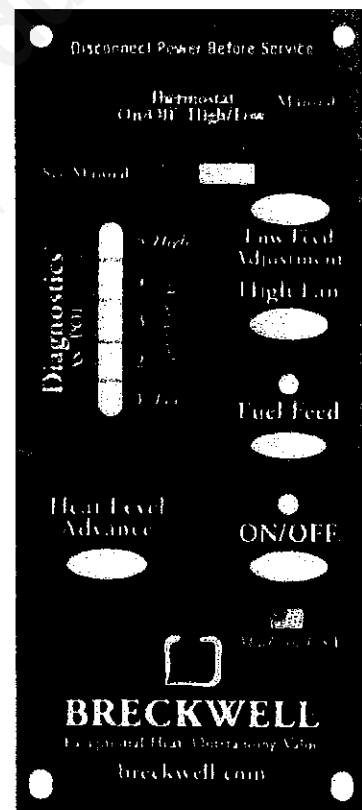

FIGURE 21
- The two thermostat wires connect to the terminal block on the lower left side of the back of the control board. (See figure 21)
PANEL CONTROLS (See Figure 21)
- The green light located above the On/Off button (in the On/Off box) will flash during the ignition start-up period. (See figure 21)
- While the stove's auger system is feeding pellets the green light (in the "Fuel Feed" box) will be on. (See figure 21)